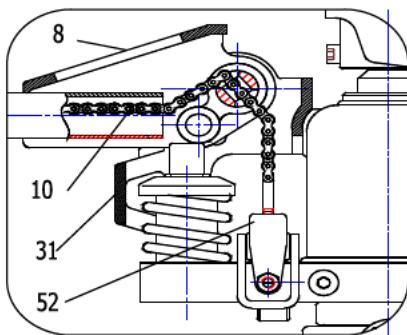
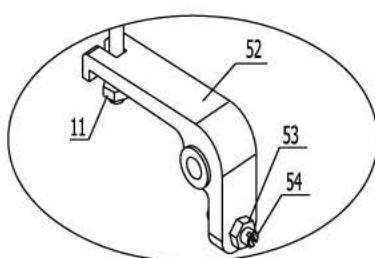

Fig. 2
Fig. 4
- 3.4 Cross the chain 10 of the Handle Tube through the hole of the pin shaft 23. Please refer to fig 2.
- 3.5 Put the Screw and nut at the end of chain 10 into the slot of the lever plate 52. Please refer to Fig.2 and Fig.4.
- 4.2 The screw 53 in fig 4 is used to adjust the truck situation. When the truck body drops immediately after it is lifted, you should turn the screw 53 a little counter-clockwise. And then try the truck again until truck body could lift normally. If the truck body couldn't drop after it is lifted, you should turn the screw 53 a little clockwise. And then try to operate truck again until the truck body could drop normally. The external hexagon nut 54 at screw 53 plays the locking function in the truck. So you should undo the external hexagon nut before adjustment. And screw down the nut after you finish the adjustment.